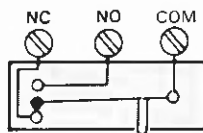
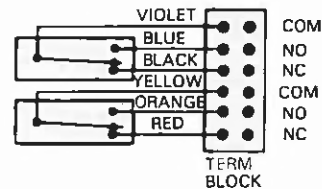

Figure 11
Figure 12
C. Wire directly to the switch (single switch Figure 11) or to the terminal block (dual switch — Figure 12).